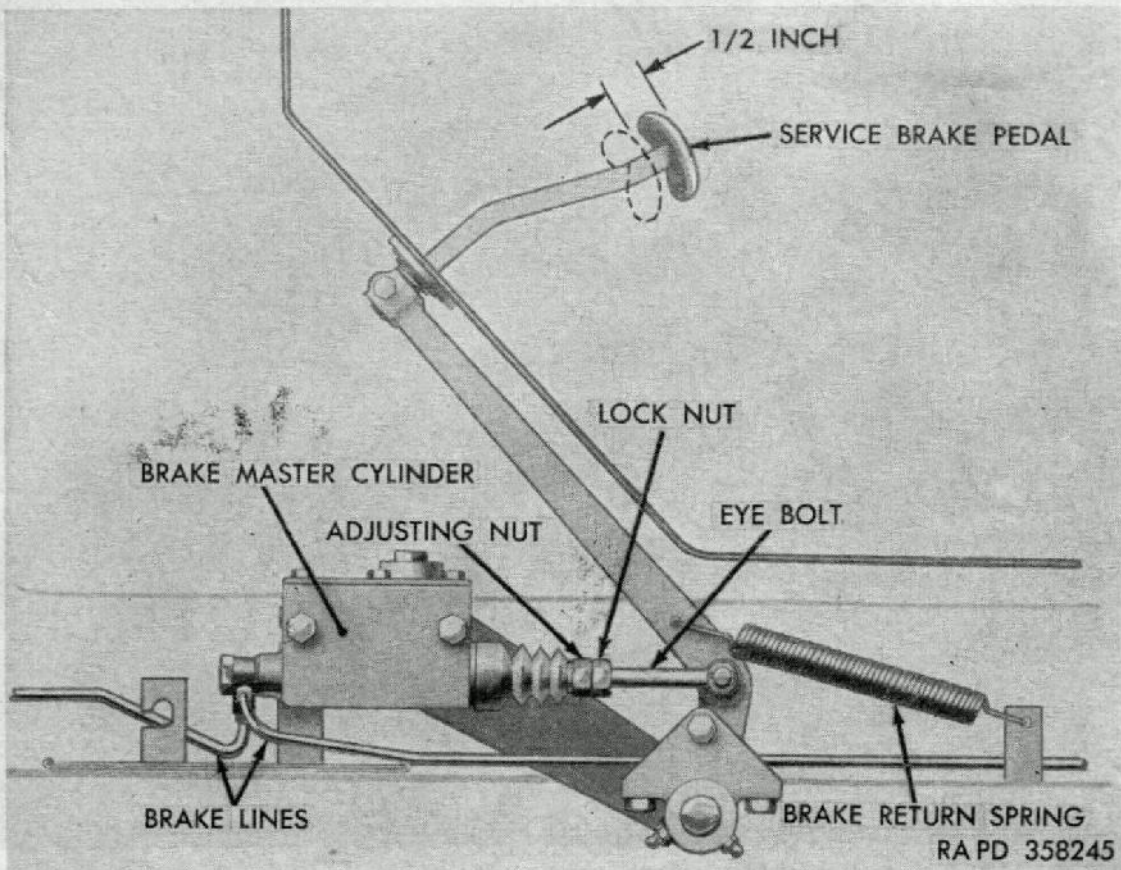

Figure 110. Brake pedal adjustment.
*a. Adjustment.* Adjust brake pedal free play to one-half inch by lengthening or shortening the eye bolt (fig. 110). The eye bolt is lengthened or shortened by loosening the lock nut and turning the adjusting nut in the direction necessary to adjust the brake pedal free play to one-half inch. After brake pedal has been adjusted, secure with lock nut (fig. 110). Raise vehicle until tires clear floor.